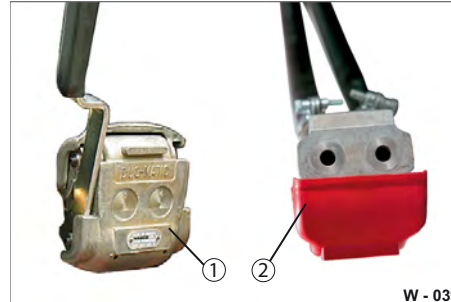

Fig. 39 Coupling head disassembled
- ▶ Clean the sealing surfaces of the coupling head (Fig. 39/2) and the coupling socket (Fig. 39/1) with a clean, dry cloth.